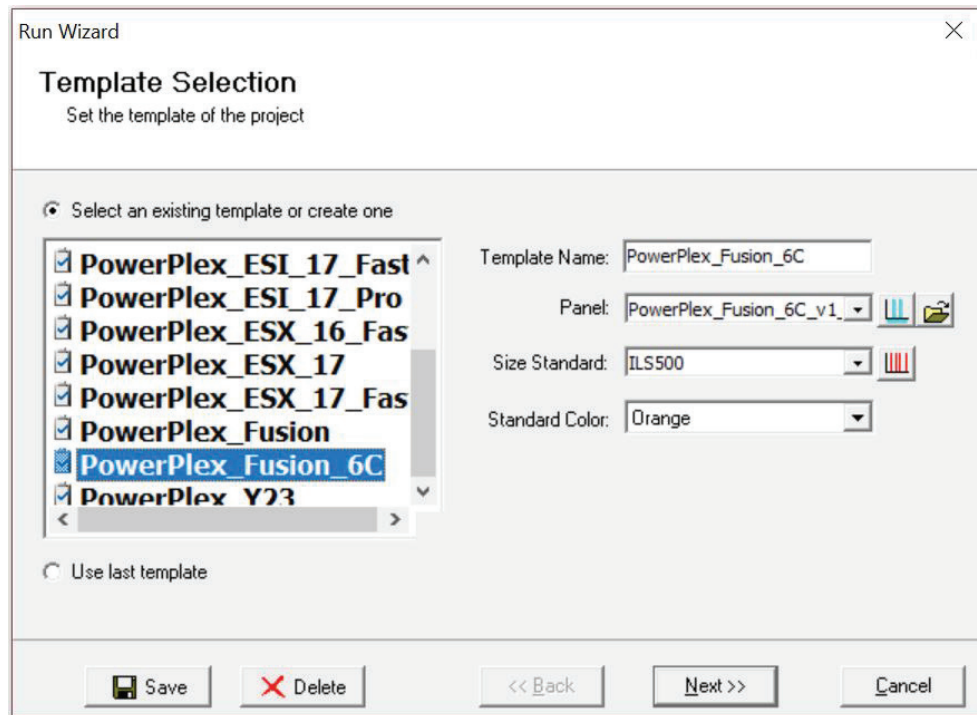

Figure 32. The 'Template Selection' window.
- Click on **Run** in the Magic Wizard or click the **Run Project** icon (green arrow) in the toolbar. The 'Template Selection' screen will appear (Figure 32). Select the PowerPlex_Fusion_6C template and the settings shown in Figure 32. Verify the panel that you created in Step 6 is selected in the panel drop-down field. The 'Size Standard' must be ILS500 and the 'Standard Color' must be Orange. Select **Next**.